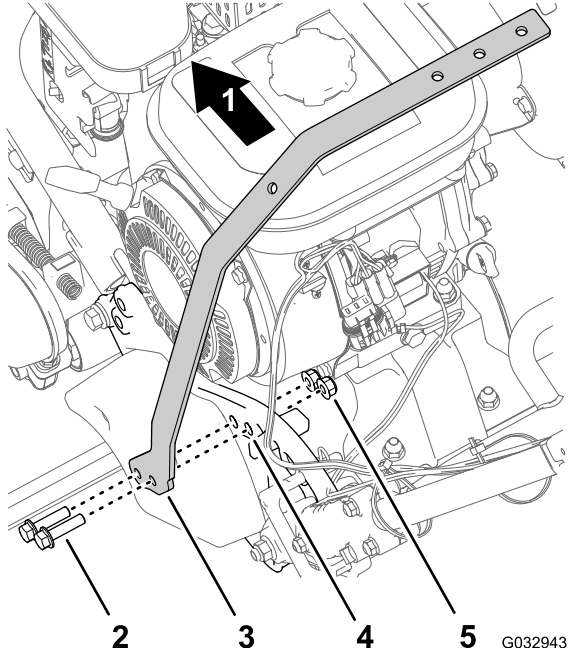

Figure 4
1. Align the 2 holes in the left light-bar strap with the 2 holes 9.5 mm (3/8 inch) in the left side plate (Figure 4).
2. Assemble the left light-bar strap to the left side plate (Figure 4) with the 2 flange-head bolts (3/8 x 1-1/4 inches) and 2 flange locknuts (3/8 inch).